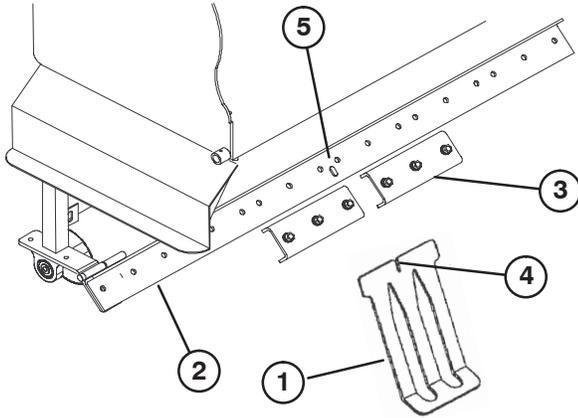

Figure 14
1. Loosen nuts securing turf guard clamps to turf finger tool bar (Fig. 14).
2. Slide appropriate turf guard under center turf guard clamp while inserting notch onto locator key of turf finger bracket (Fig. 14). Refer to accessory chart note, page 13.
1. Loosen fasteners securing each end of scraper to roller scraper tab (Fig. 14).